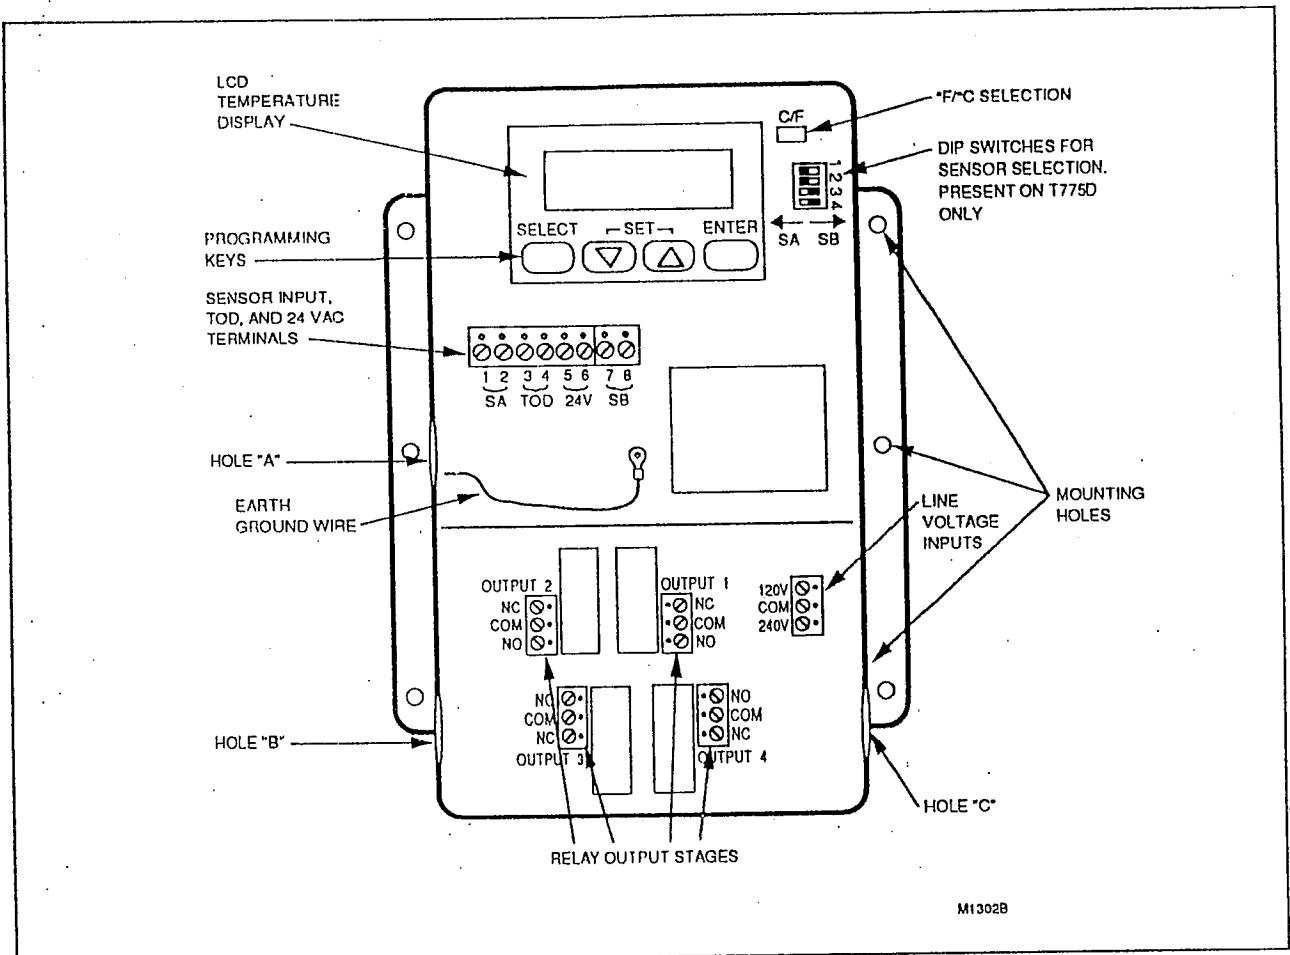
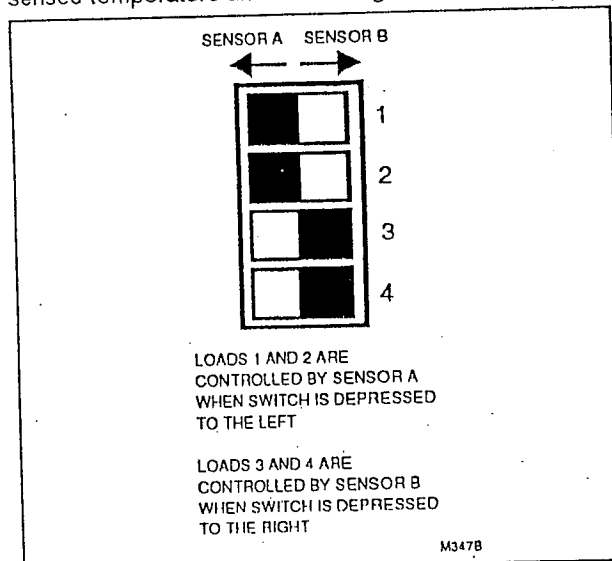

FIG. 2—FEATURE LOCATIONS.
FIG. 3—DIP SWITCH SETTINGS FOR SENSOR SELECTION.
**MOUNTING:** Mounts on any suitable horizontal or vertical surface (see Fig. 2 for mounting hole locations).
The T775D has dual sensor inputs and allows two separate controllers to exist within one enclosure. Selection of the stage parameters (operation mode, set points, and differentials) is the same as that for a single sensor device once each stage has been assigned to its operating sensor. This assignment is hardware driven via a four position DIP switch. See Fig. 2 for the DIP switch location. See Fig. 3 for DIP switch explanation.
A two-terminal input is provided to allow the user to override a relay energized condition of any output by using a contact closure between terminal pins 3 and 4 of the terminal block for sensor input shown in Fig. 2. This override function can be achieved manually or by using an EMS controller or time clock with normally open contacts, i.e., W7505, S7005, etc.
A single jumper plug controls °F/°C indication of the displayed temperature value. The location of this jumper is shown in Fig. 2. The unit is shipped with the jumper installed in the °F mode. To operate the device in °C mode, remove the jumper.
On the T775D, DIP switches are provided for assignment of each relay output stage to its operating sensor. If an individual switch is depressed toward its corresponding load number (1-4 on DIP switch) or to the right, Sensor B will be the controlling sensor for that output stage. If an individual switch is depressed to the left, Sensor A will be the controlling sensor for the output stage. An example of the switches and their corresponding positioning is shown in Fig. 3.
Refer to Fig. 2 for locating the appropriate power inputs, remote sensor input, load output terminals, Contact closure override input, and sensor selection switch. Access to the terminals can be gained through holes A-C located around the perimeter of the enclosure. NOTE: Hole "A" should only be used for the green earth ground wire, sensor, low voltage, and Contact closure wiring. When wiring the input power, only one source of power can be applied to the T775 (e.g. 24 Vac or 120 Vac or 240 Vac). Holes "B" and "C" can be used to gain access to 120 Vac or 240 Vac input terminals and the load relay output terminals.
The green wire by the sensor terminal block must be connected to earth ground through hole A (see Fig. 2) or the device warranty will be void.